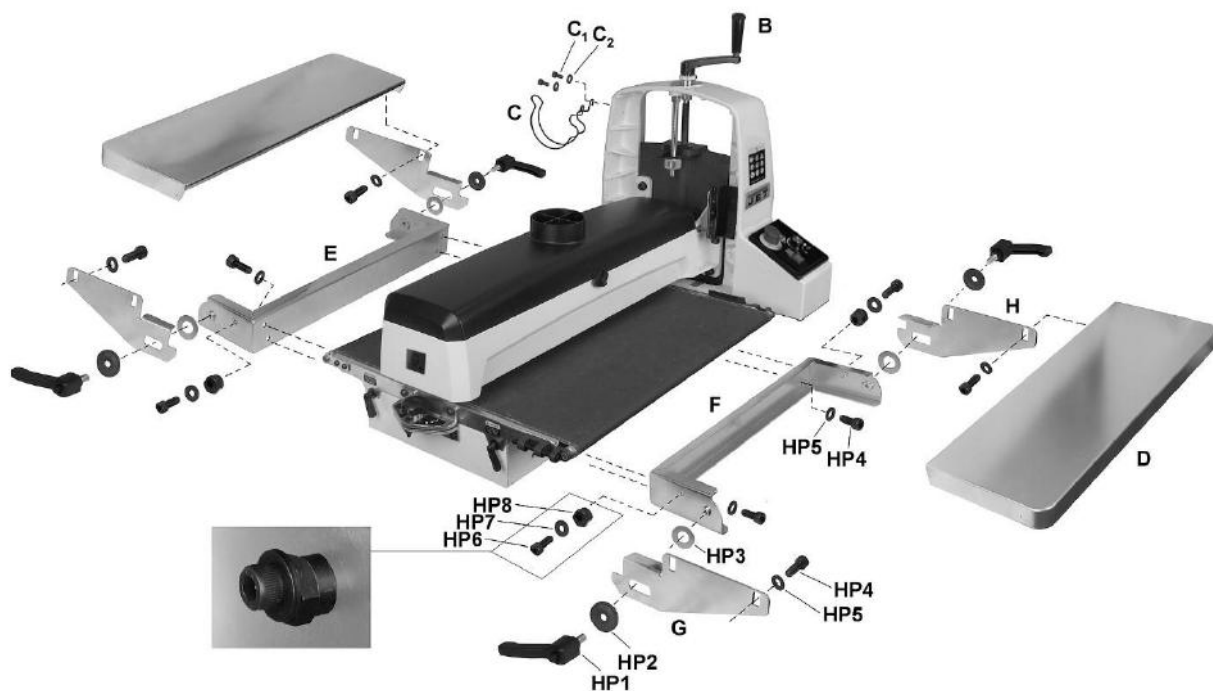

Figure 6-3: Assembly of Sander and OPTIONAL Infeed/Outfeed Tables
1. Install height adjustment handle (B, Fig 6-3) onto spindle and tighten set screw.
2. Install hose hanger (C) with screws and washers (C₁/C₂).
1. Install infeed and outfeed brackets (F, E, Figure 6-3) to the threaded holes in sander base with socket head screws and flat washers (HP4/5). Make sure left and right brackets are oriented as shown. The brackets should be flush against the base.